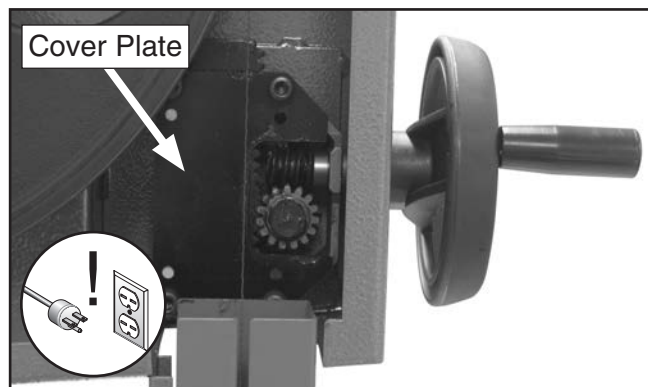

Figure 53. Guide post gears.
2. Lower the guide post down so the upper guide bearings almost touch the table, then open the upper wheel cover to access the gears, shown in **Figure 53**.